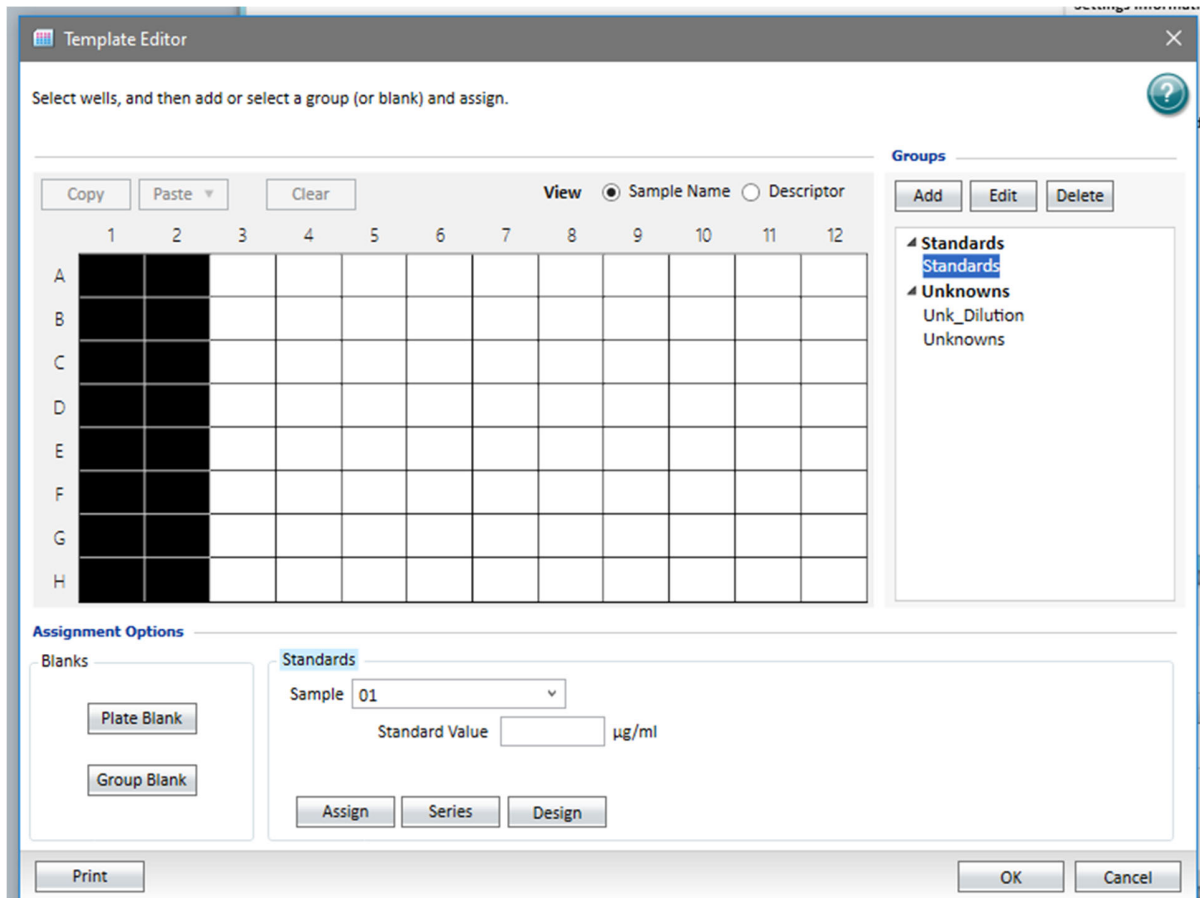

Figure 11: Options to define a standard curve in the template editor
- click “standard” in the right menu (see figure 11)